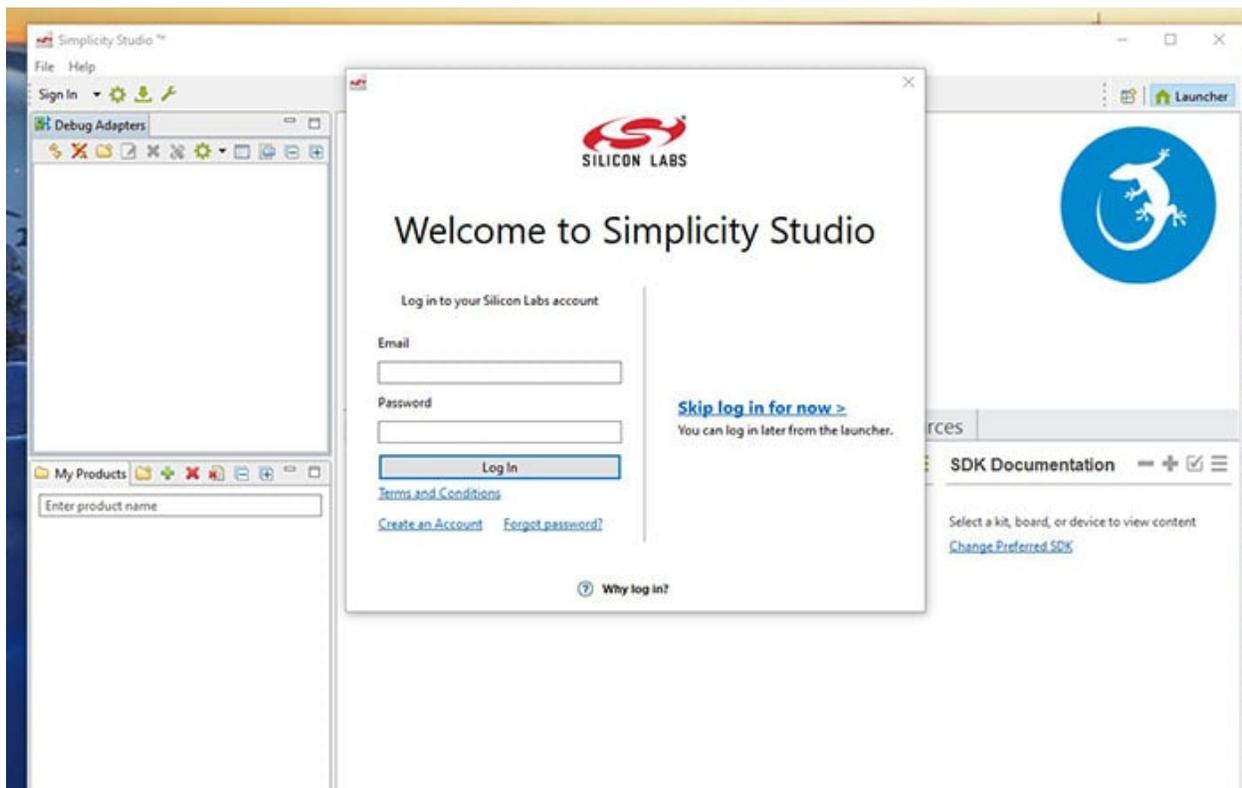

Figure 2: Silicon Labs login screen within Simplicity Studio. (Source: Simplicity Studio)
4. Log in to your Silicon Labs account from Simplicity Studio. The login screen will pop up by default (Figure 2).